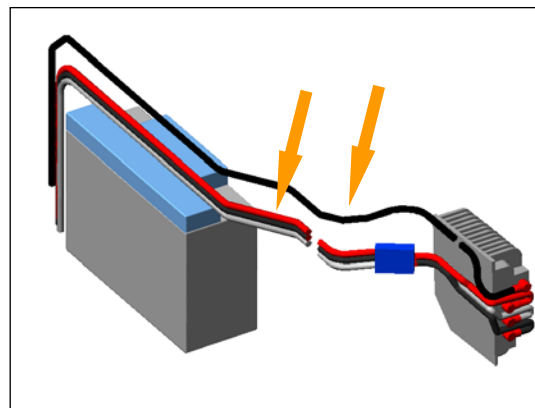

Figure 38
- b. Using supplied wire crimps and heat shrink material, splice in supplied color coded wires between severed plug and vehicle harness. Figure 38